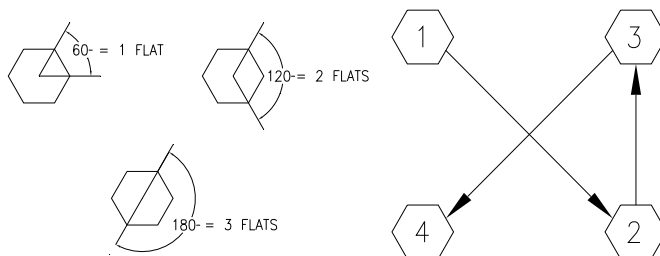

Fig. 14-5 Rotation Angle Each Flat = 60° and Tightening In a Diagonal Sequence
***Use progressive tightening technique to draw side rods up evenly.** Torque the side rods* in diagonal sequence (Fig 14-5), in small increments (Level 1, Level 2, Level 3), until torque level (3) is achieved.
Turn each side rod according to +° (or flats) shown in table. Follow tightening sequence Fig 14-5. **Use hand wrench only - Impact tools prohibited!**